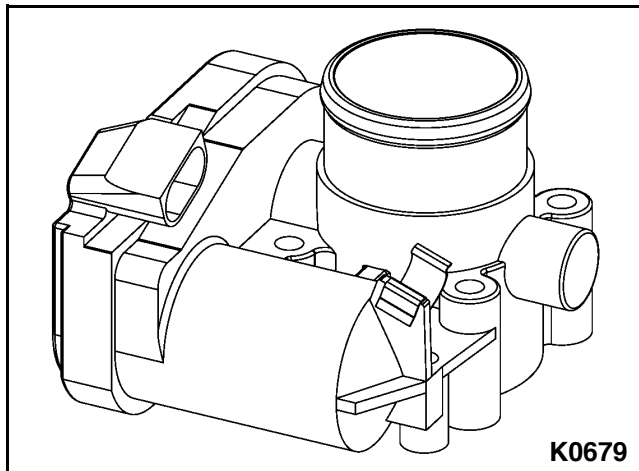

Figure 4-7
1. Push the adjusting cap to its upper stop and rotate clockwise, release upward pressure, and lock into place. See Figure 4-7.
1. Push up on the adjusting cap (A) and rotate counterclockwise. Release upward pressure, and lock into place. See Figure 4-7.